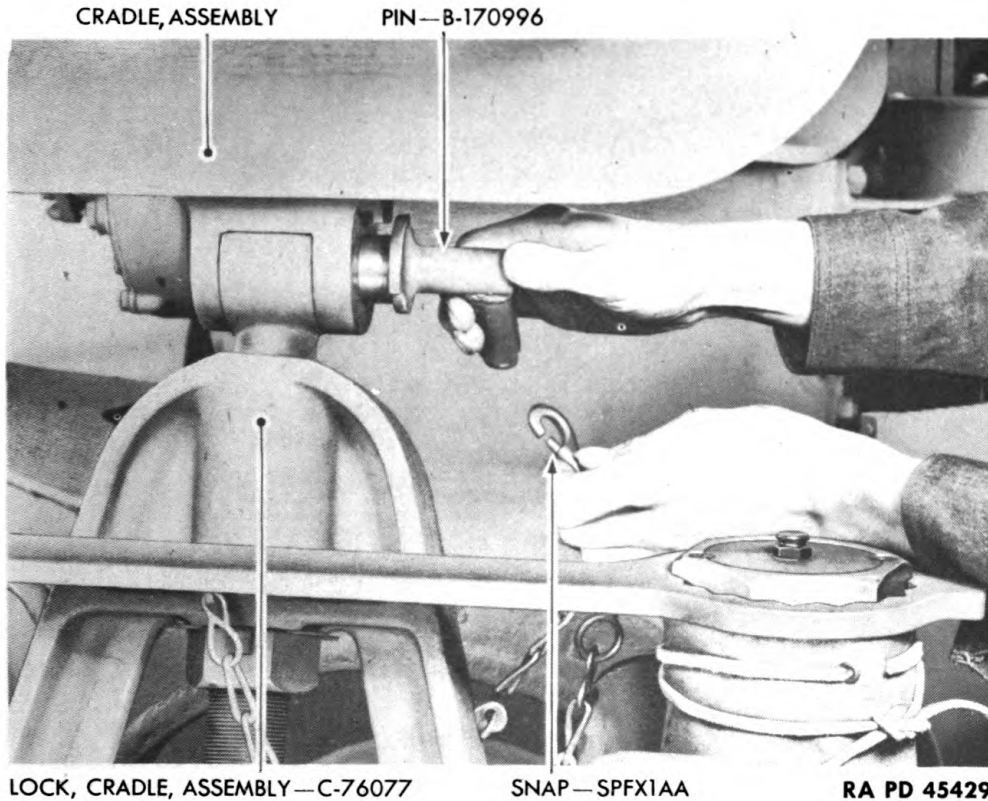

Figure 44—Unlocking Cradle Lock
c. Unlock cradle lock by unfastening snap SPFX1AA and turning and pulling out cradle lock pin B170996 (fig. 44).